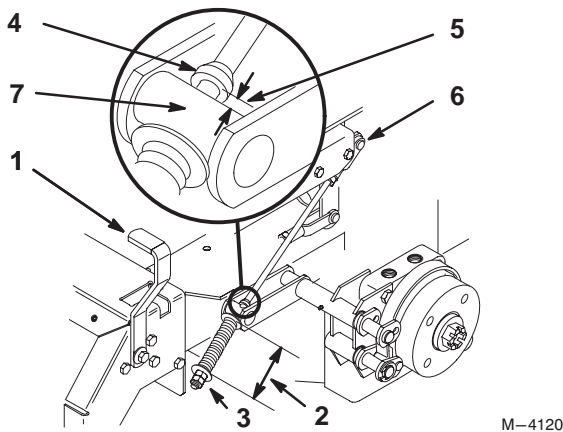

Figure 63
2. Measure the length of the spring. Measurement should be 2.75" (70 mm) between washers (Fig. 63).
3. If adjustment is necessary, loosen the jam nut below the spring and tighten the nut directly below the yoke (Fig. 63). Turn the nut until the correct measurement is obtained. Tighten the two nuts together and repeat on opposite side of unit.
6. Measure the distance between the trunnion roller and the collar on brake rod . Measurement should be 3/16"-1/4" (5-7 mm) (Fig. 63).
7. If adjustment is necessary, loosen the jam nut directly below the yoke. Turn the bottom adjusting nuts until the correct measurement is obtained (Fig. 63). Tighten jam nut at yoke